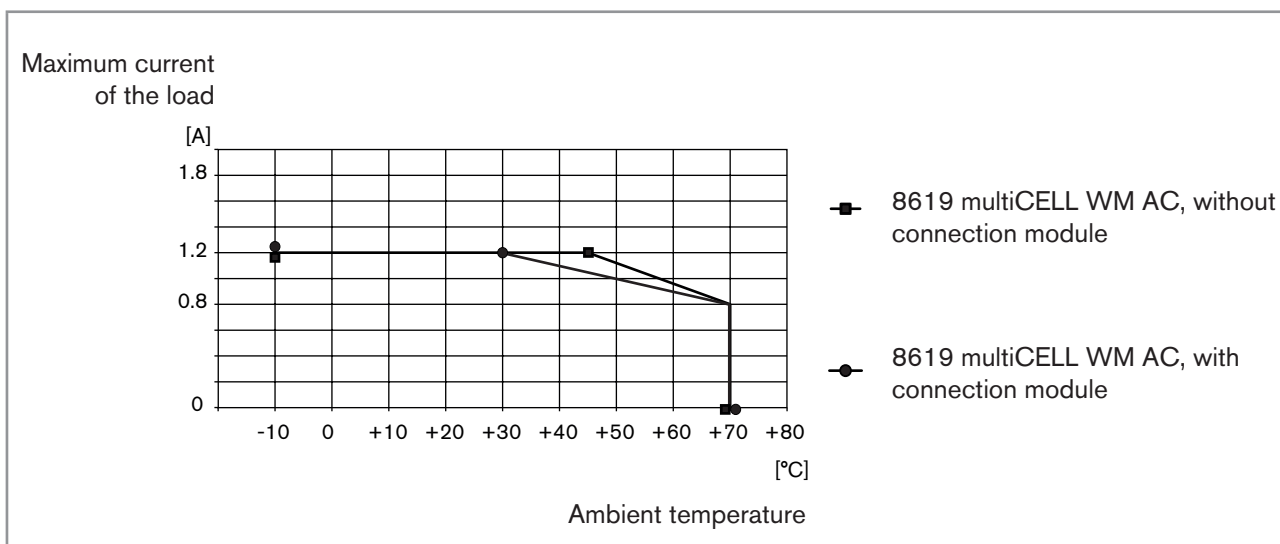

Fig. 7 : Derating curves of the maximum permissible current, depending on the ambient temperature
Observe the maximum permissible load as a function of the ambient temperature. See the derating curves Fig. 7, section 3.9.
- 24 V DC, filtered and regulated, 1,2 A max.: see the curves in Fig. 7. SELV circuit, at a non-hazardous energy level